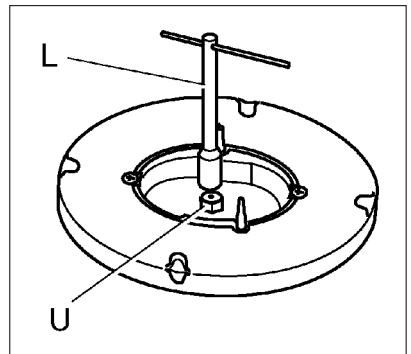

FIG. 6
- › Unscrew nozzles U (Fig.6) using a socket spanner (L), and replace with the correct nozzle for the available gas type.